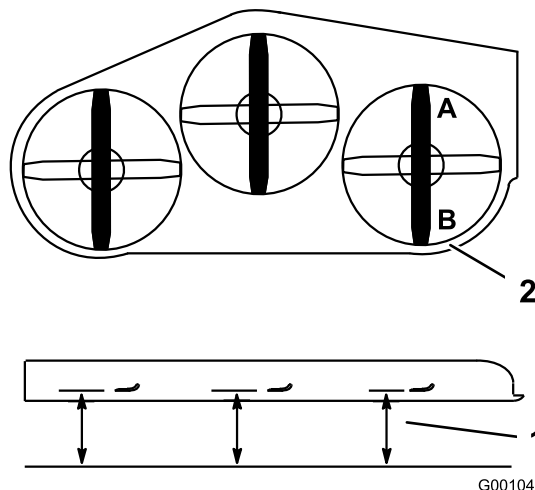

Figure 84
- Position the **right** blade front-to-rear (Figure 84).
- Measure the right blade at the **A** location, from a level surface to the cutting edge of the blade tip (Figure 84).
- Measure the right blade at the **B** location, from a level surface to the cutting edge of the blade tip (Figure 84).
- The mower blade should be a 1/4 to 3/8 inch (6 to 10 mm) lower at position **A** than at position **B** (Figure 84). If it is not correct, proceed to the following steps.